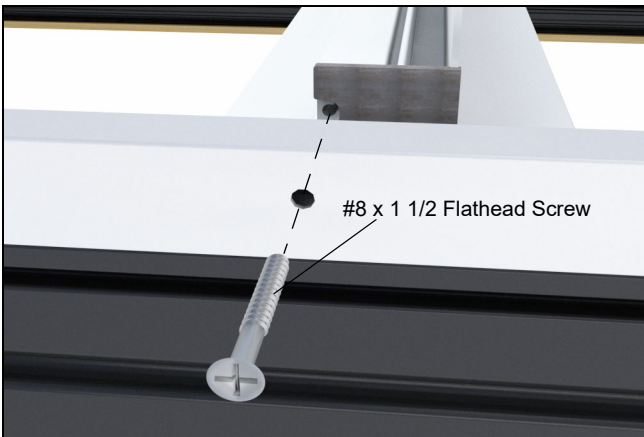

Figure 65
10. Ensure hole is lined up with screw boss in pocketing interlock. See figure 65.